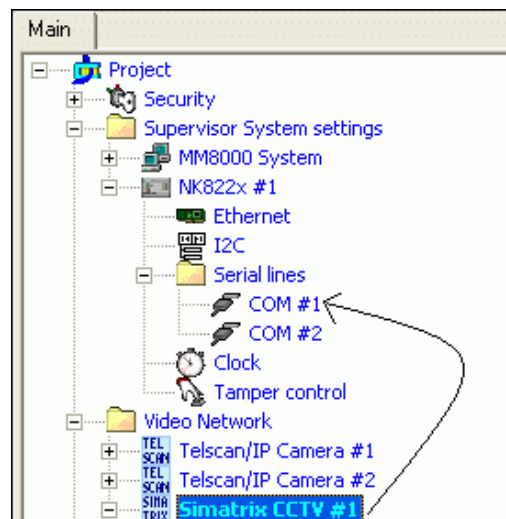

Fig 17 Linking SIMATRIX to NK8223
3. Drag and drop the SIMATRIX node to the network port node (see Fig 17).